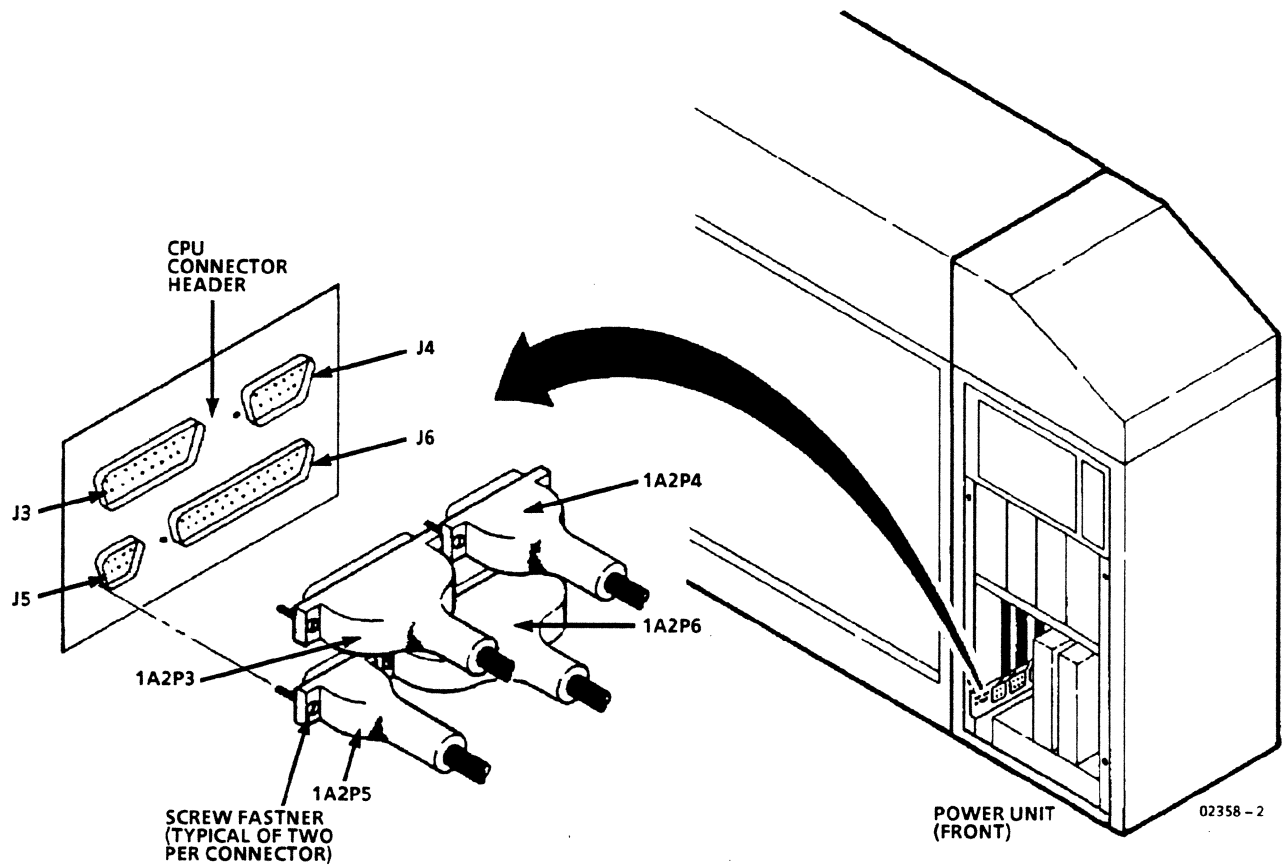

Figure 2-17. Power Unit to CPU Cable Connections
- ___ 2. Connect cables from power unit in order listed in table 2-1 to CPU connector header (figure 2-17). Fasten cables with a short-shaft slotted screwdriver.